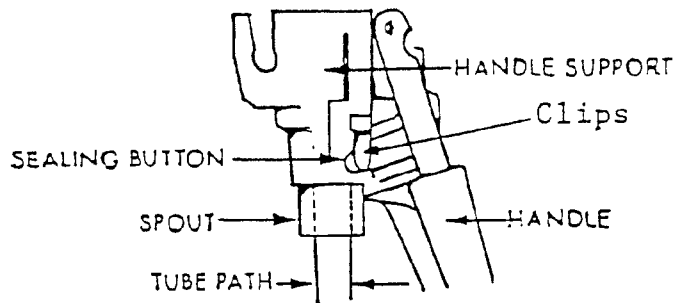

Figure 1
1. Removing the Push Handle (See Fig. 1).
- b. Grasp clips on handle. Squeeze clips until they are free from panel. Pull straight down on handle (see Fig. 1).